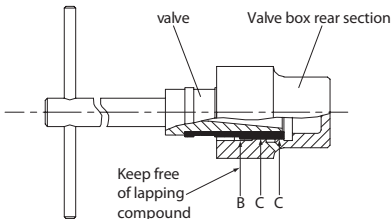

figure 2
- b. Apply lapping compound to diameter "C" only; keep diameter "B" free of compound at all times. Insert the compound-coated end of the Valve into the rear section of the Valve Box as shown in Figure 2 and lap until a free fit is obtained.